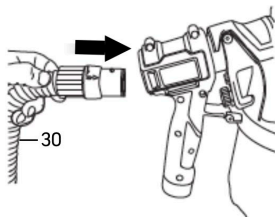

Fig. 4
7. Insert one end of the hose (#30) into the back of the sprayer and twist slightly to ensure a snug fit (Fig. 4).